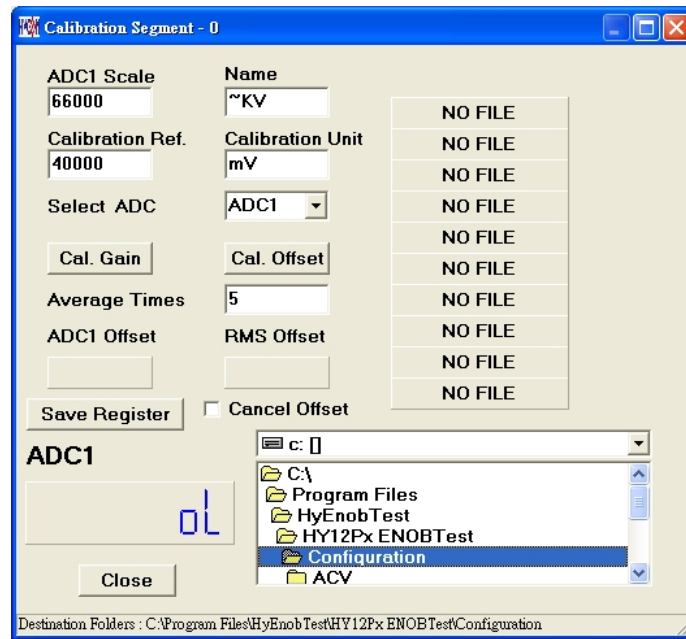

Figure 1- 16
**Step 3:** Click SETDMMA on the interface, a window as like Figure 1- 16 will pop up.